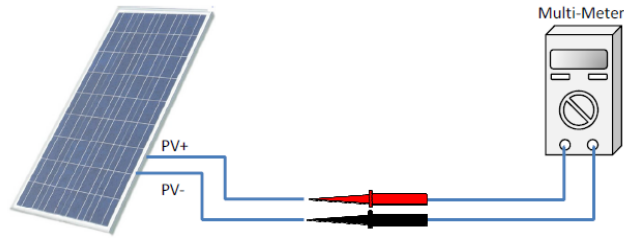

Figure 3-28 Polarity Check
- Ensure correct polarity of the PV Strings before terminating the DC source circuits. Referring to Figure 3-28, the wiring from the PV string pairs must be checked according to the following steps: